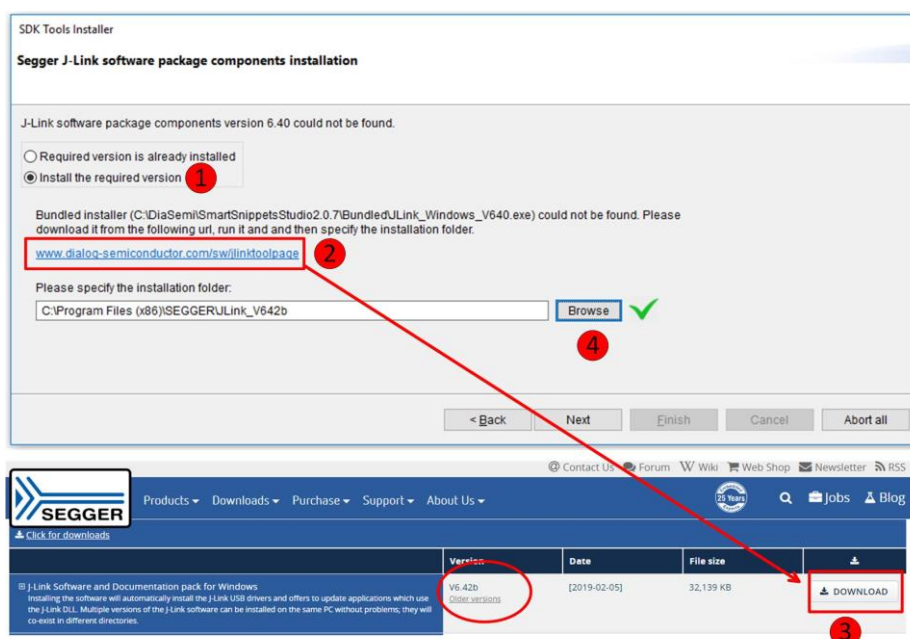

Figure 18: Set SEGGER J-Link Installation Folder
- Then, the installer will guide user to install SEGGER JLink version 6.42b or later. They are available from the [SEGGER website](http://www.segger.com) Refer to **Figure 18**.